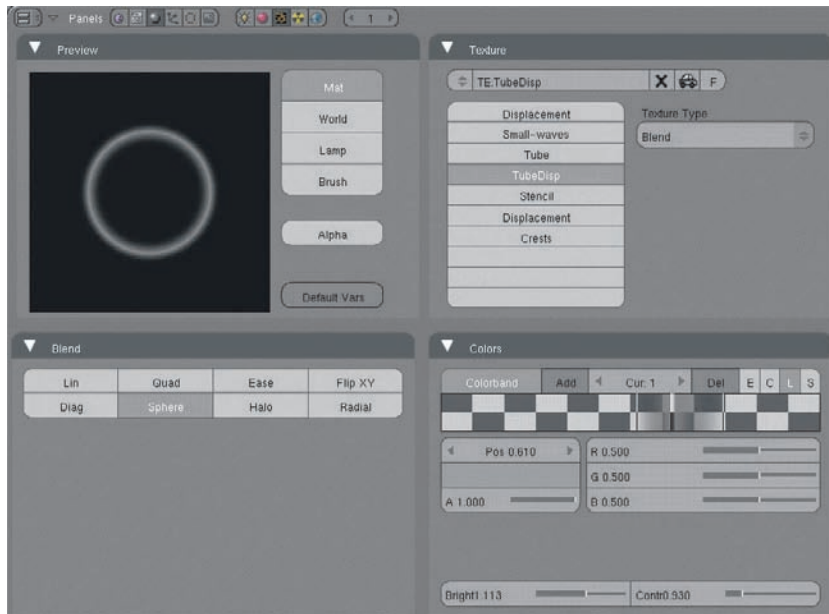
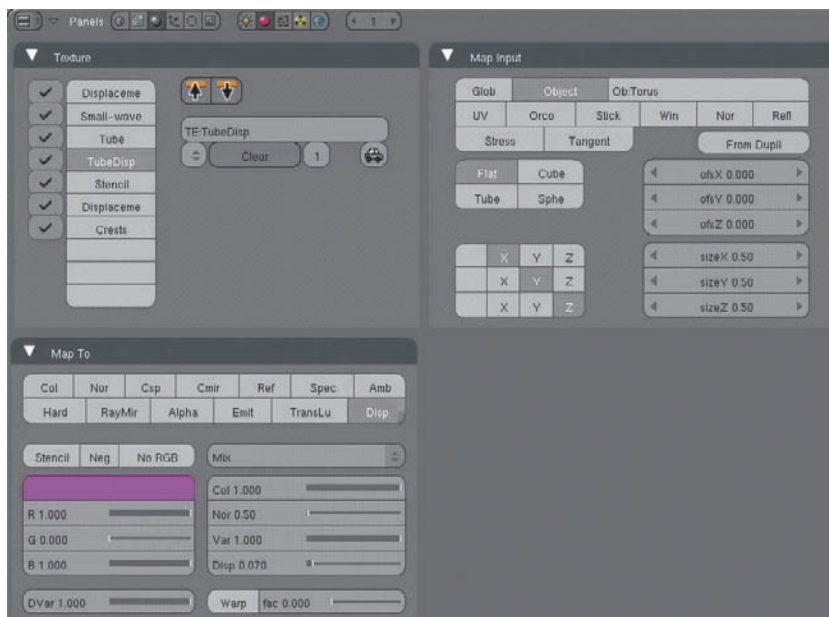

Figure 1.56 The TubeDisp texture
Figure 1.57 The TubeDisp texture mapping
15. Finally, create the displacement texture for the surface tension on the life ring. Duplicate the Tube texture and place the copy in texture channel 3 by using the Copy To and Copy From Clipboard buttons as you did previously. In the Texture buttons, click the 2 next to the TE drop-down to make the texture a new single-user texture, and rename the texture **TubeDisp**. Set the values as shown in Figure 1.56. Set the mapping values as shown in Figure 1.57. The Map Input values are the same as they were for Tube.